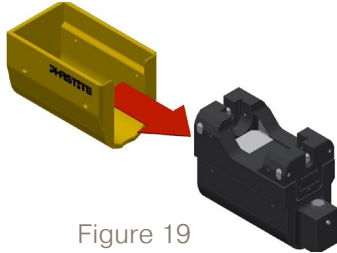

Figure 19
1. Place and slide supplied boot onto the tool (Figure 19).